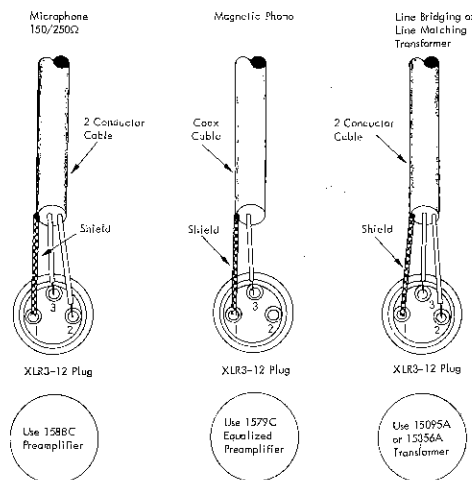
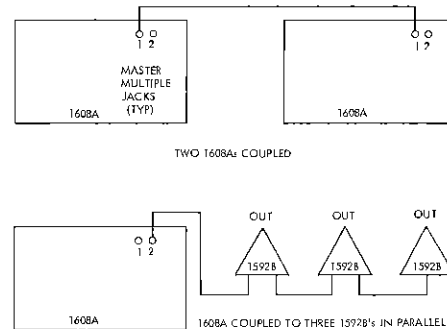
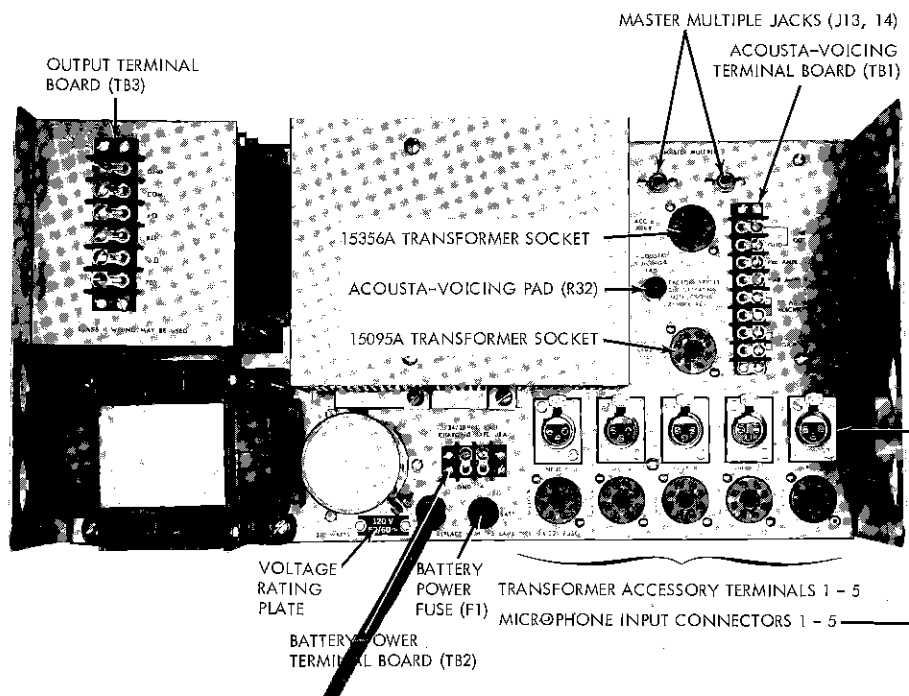
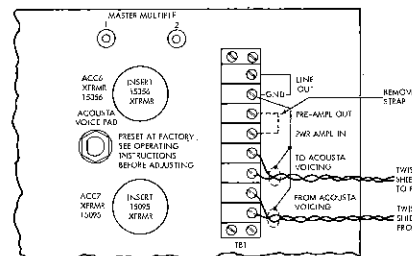

Figure 5. Input Cable Plug Wiring
Figure 6. Multiple Coupling of Amplifiers
Figure 3. Rear View of 1608A
Figure 7. Connecting Passive Acousta-Voicing Equalizers
| ACOUSTA-VOICING Pad Control (R32)                      | Continuously variable potentiometer (see Figure 3). Factory adjusted. Setting should not be changed. Readjustment may be required with passive Acousta-Voicing equalizers. See SERVICE information for readjustment procedure.  |
Equipment supplied for domestic use is provided with the power transformer primary strapped for 120 volts (terminals 1 to 2 and 3 to 4 on TB4). The power input nameplate, adjacent to the power cord on the chassis, is mounted to show the appropriate side specifying the connections (see Figure 3). Verify that line voltage is in accordance with the voltage rating *before* connecting the 1608A to line power.
2. Locate terminal board TB4 beneath power transformer T1. (See Figure 5.)
4. Remove voltage-rating plate from chassis, reverse and reinstall to show 240V rating (see Figure 3).
If desired, the 1608A may be connected to an external 24/28 volt battery with minus (-) as ground. Terminals for the dc power connections are on TB2 (see Figures 3 and 13). If ac power fails, transfer to dc power is instantaneous, automatic and silent. A built-in charging circuit supplies a 100 mA trickle current to maintain battery charge during ac operation. The battery power supply is not operated by the POWER switch on the front panel. If switching of battery power is desired, an external relay or switch should be provided by the user.
Inputs to the mixer channels are connected on the chassis at connectors J1 through J5 (see Figures 3 and 13) with cables terminating in XLR3-12-type plugs. Appropriate internal wiring of the plugs is shown in Figure 5. Input for any channel may be microphone, magnetic phono or line. The corresponding plug-in input accessory must be used for each channel.
High-level devices, such as recorders and tape machines, may be connected to terminals 1 (LINE OUT) and 2 (GND) of TB1 on the chassis (see Figures 3 and 13.) This output may be connected to a telephone transmission line when suitable line-matching transformers are used on the line. Maximum line output is +18 dBm across a 600-ohm impedance.
Two MASTER MULTIPLE jacks, independent of all gain controls, enable combining two or more 1608A amplifiers, or up to three additional 1592B amplifiers, in a single sound system. All inputs of such a system appear at the output of each amplifier; the output of each amplifier is then adjustable for a separate application. Typical combinations of amplifiers are shown in Figure 6. A single coaxial cable with phono plugs connects each amplifier. Either MASTER MULTIPLE jack (see Figure 3) may be used for interconnection.
The ALTEC plug-in input accessory modules are plugged into sockets ACC1 through ACC7 (J6 through J12) on the chassis (see Figures 3 and 13). Module selection is determined by channel application. Use care when installing the modules to prevent damage.
When Acousta-Voicing with passive equalizers, the equalizer connections should be made in accordance with Figure 7, using two-conductor shielded and twisted cable, such as Belden 8450 or 8451 cable. Connect shield to GND of TB1 and opposite end of shield to chassis ground of equalizer. An ALTEC 15356A Line Matching Transformer must be installed in socket ACC6 (J11) and an ALTEC 15095A Bridging Transformer must be installed in socket ACC7 (J12). These transformers provide proper impedance matching plus 11 dB additional gain to the system. This gain usually compensates for losses in the passive equalizing filters. If more gain is required, remove the cap from the Acousta-Voicing pad (see Figure 3) and rotate the control clockwise (cw) only enough to compensate for gain lost in the passive Acousta-Voicing equalizers. If it subsequently becomes necessary to readjust the pad, refer to SERVICE instructions.
1. Connect a 16-ohm dummy load across terminals 2 and 5 of TB3 (16 ohm output). (See Figure 3.)
The Acousta-Voicing pad, located on chassis (see Figure 3), is for adjusting gain correction when using passive Acousta-Voicing equalizers. If the pad requires readjustment, use the following procedure.
3. Place an 8-ohm dummy load across terminals 3 and 5 of TB3 (8-ohm speaker output). (See Figure 3.)
2. Connect a 16-ohm dummy load across terminals 2 and 5 of TB3 (16-ohm speaker output). (See Figure 3.)